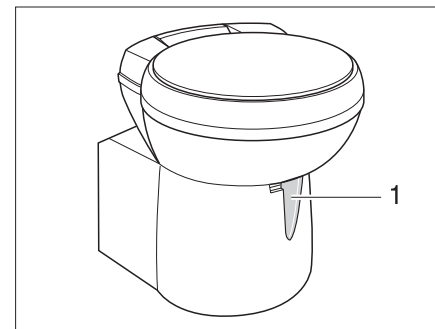

Fig. 185 Thetford toilet bowl, swivelling
- ▶ Before flushing open the sliding trap of the Thetford toilet. To do this, push the slide lever (Fig. 185,1) anticlockwise.
- ▶ Push the slide lever (Fig. 185,1) in a clockwise direction. The sliding trap is closed. To empty, the sliding trap in the Thetford toilet **must** be closed.